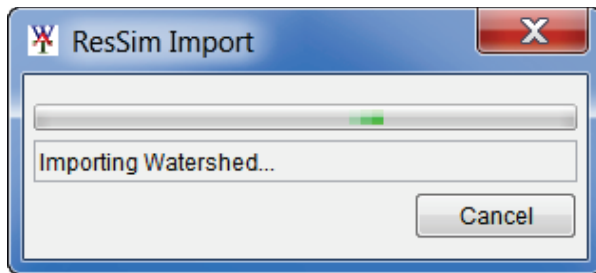

Figure 8.4 ResSim Import Window
4. A **ResSim Import** window will open (Figure 8.4) showing the progress of the HEC-ResSim import.